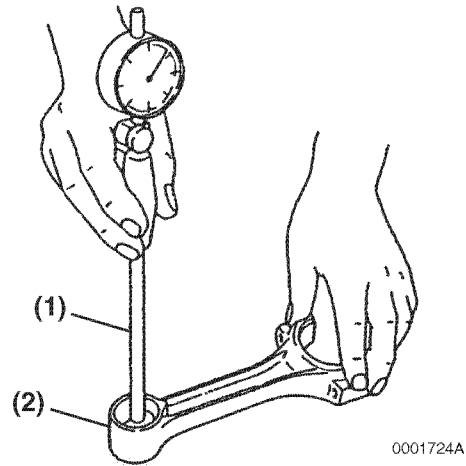

Figure 6-116
1. Measure the wrist pin bushing bore using a bore gauge (**Figure 6-116, (1)**). Replace the bushing if not within specifications. If the bushing has been removed, measure the inside diameter of the connecting rod small end (**Figure 6-116, (2)**). See *Connecting Rod* on page 6-22 for specifications.